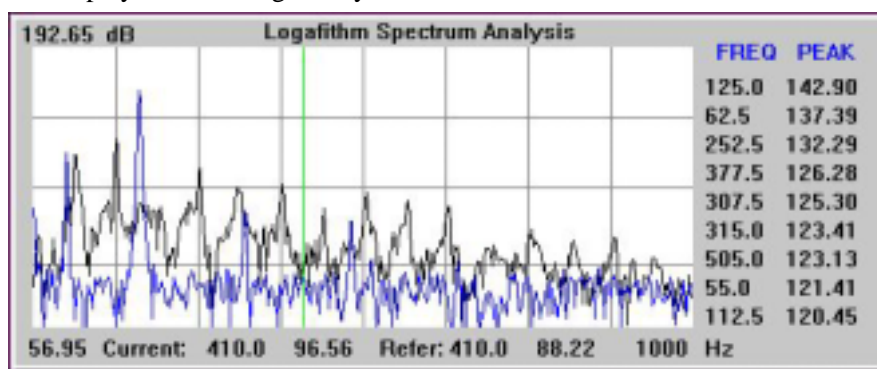

Figure-6 Reference and current spectrum
- **SET REFERENCE SIGNAL:** After selecting a data file and analyzing it, press down <Set-Ref> button, the signal is saved for reference. Then select the other data file, users can compare this result with it (current curve's color is black, reference curve's color is blue. See Figure-6). Now, <Set-Ref> has turned to <Del-Ref>. Press it down, the screen doesn't display reference signal anymore